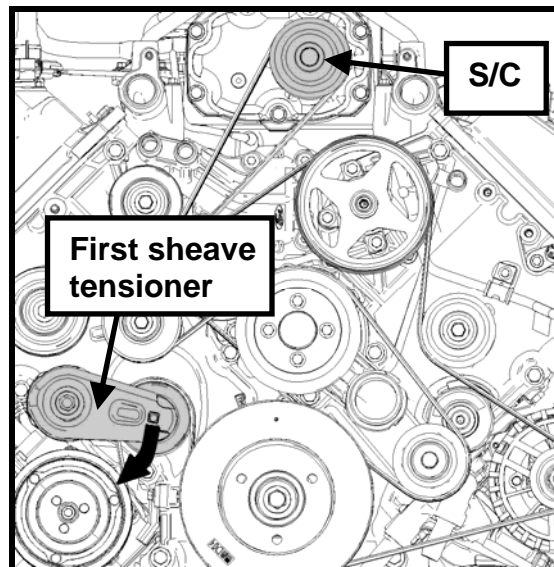

Fig. 13
**STEP 13:** Use a 3/8" breaker bar to release the first sheave tensioner and remove the FEAD belt from the supercharger (S/C) pulley (See Fig. 13).